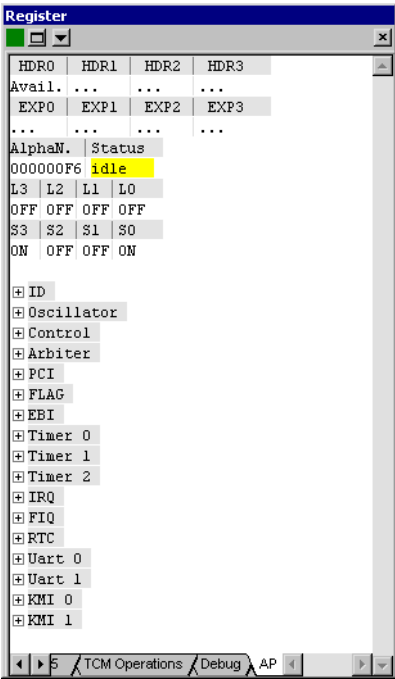

Figure 13-20 AP tab in the Register pane
2. Click on the **AP** tab. RealView Debugger shows the abstraction of the hardware information specific to the Integrator/AP board, shown in Figure 13-20 on page 13-28.